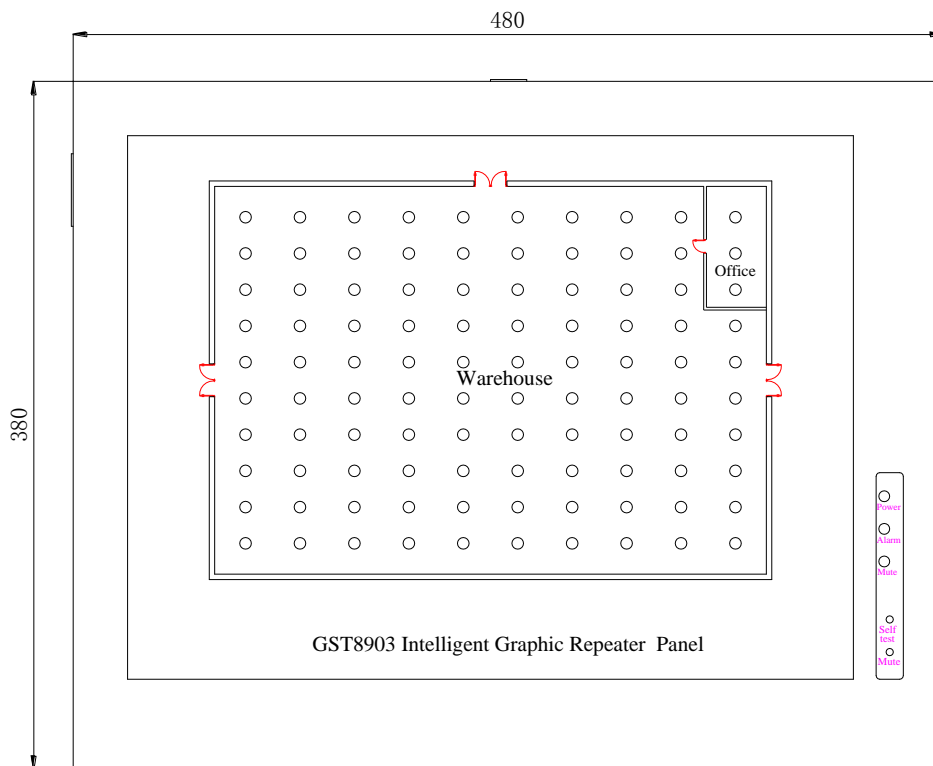

Fig. 1
- (1) Appearance of the repeater panel is shown in Fig. 1.